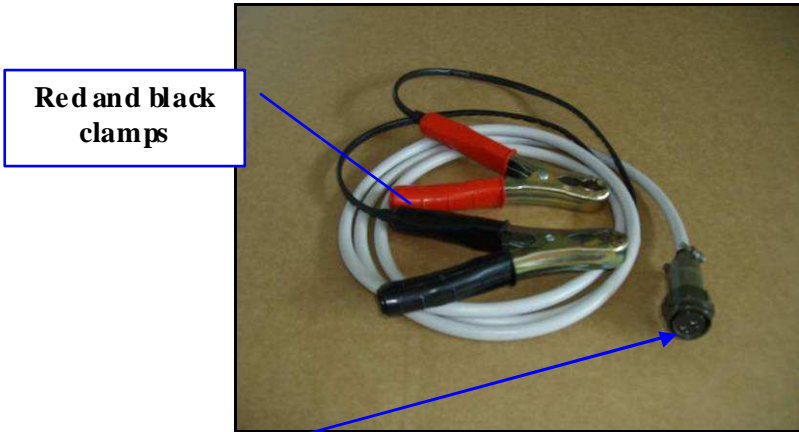

Fig. 2-10 – Battery Cable
- Connect the **Control Unit** to the **Battery** using the **Battery Cable** (Fig. 2-10) as shown in (Fig. 2-11). Then connect the black and the red clamps respectively to the negative and to the positive electrode of a Car Battery (12V). The Voltmeter will automatically measure the battery voltage.